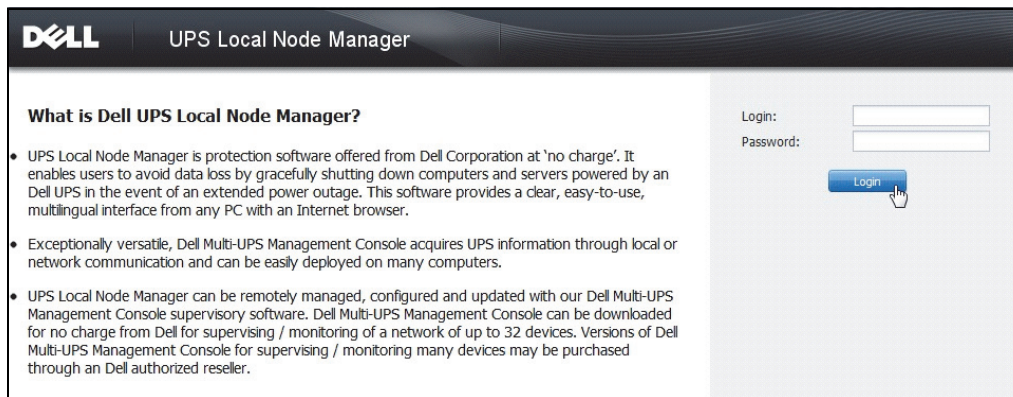

Figure 83. Login Page
- 2 Login (admin) / Password (admin) are default access entries. Type the login and password and click **Login** (see Figure 83).